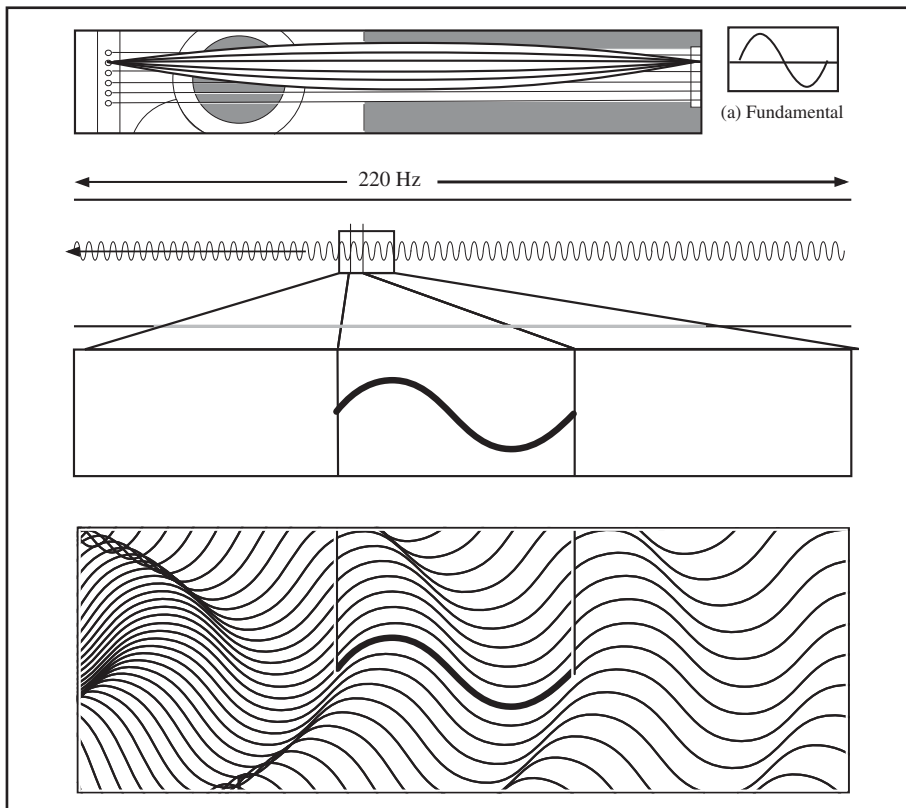

FIGURE 2.2
- **What is a wavelength?** The wavelength is the length of the sound wave, or the physical space it takes to complete a single cycle (Figure 2.2). The wavelength is equal to the speed of sound divided by the pitch, or frequency. For example, 220 Hz has a wavelength of about one-and-a-quarter feet; 440 Hz has a wavelength of about two-and-a-half feet because the speed of sound (1125 fps (feet per second)) \div frequency (440 Hz) = 2.55 fps.